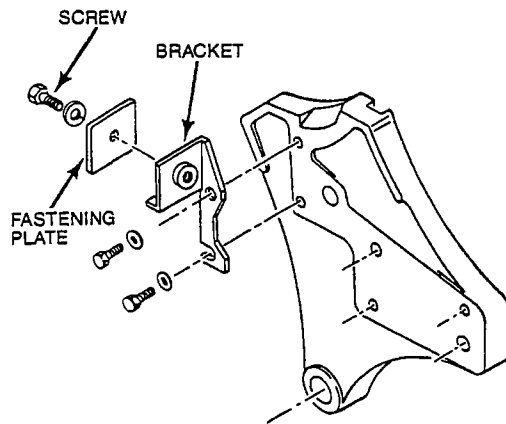

FIGURE 5
4. With screw provided, assemble splitter fastening plate to bracket (see Figure 5).